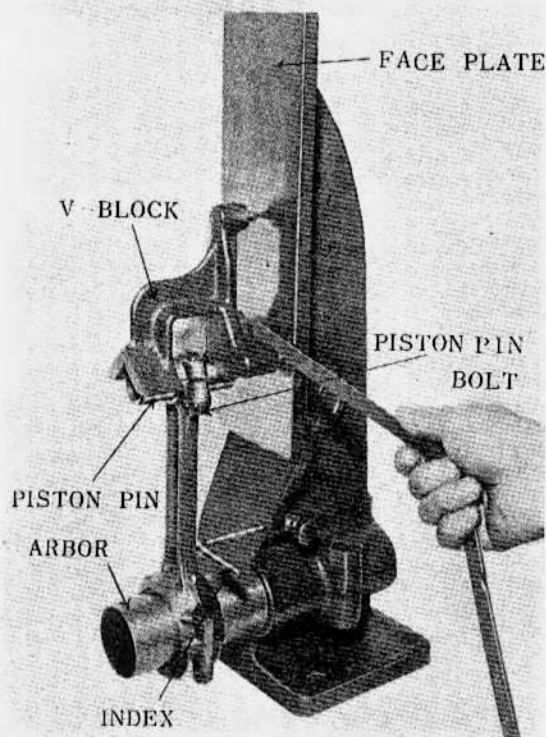

Figure 88 - Connecting Rod Alignment Fixture
(1) Place the piston pin in the eye of the connecting rod and tighten the piston pin bolt.
(2) Place the connecting rod on the arbor of the aligning fixture and tighten the connecting rod bolts.
(3) Place "V" block on piston pin and slide it against the face plate. If all three points on "V" block contact the face plate, the connecting rod alignment can be considered satisfactory.
(4) If any of the three points on "V" block fails to contact the face plate to produce clearance at this point, the connecting rod is out of alignment (Fig. 88).
(5) In such a case, correct the bending or twisting in connecting rod until all three points on the "V" block contact the face plate properly.
(6) The fixture is sufficiently strong to hold the connecting rod for straightening. Place a bending bar on the rod and twist or bend the rod as required and recheck. Continue this operation until all pins just touch the face plate.
(7) Place the "V" block on the piston pin so that the "V" block rests